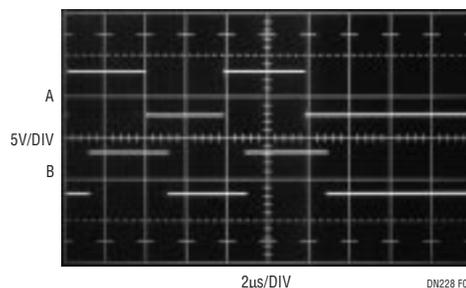

Figure 2. Positive-Going Double-Pulse Behavior:
Internally, the two halves of the LTC1535 communicate in a ping-pong fashion, first sending transmit data to the isolated side and then sending receive data back to the nonisolated side. The sampling nature of the internal communications link means that some jitter is introduced into the data; this limits the useful baud rate to approximately $500kBd$. At $350kBd$, the jitter is guaranteed to be less than 10%. Figure 2 shows a double pulse propagating through the LTC1535. Waveform (A) is the transmitter data input and waveform (B) is the output of the receiver. The transmitter and receiver are looped back on the